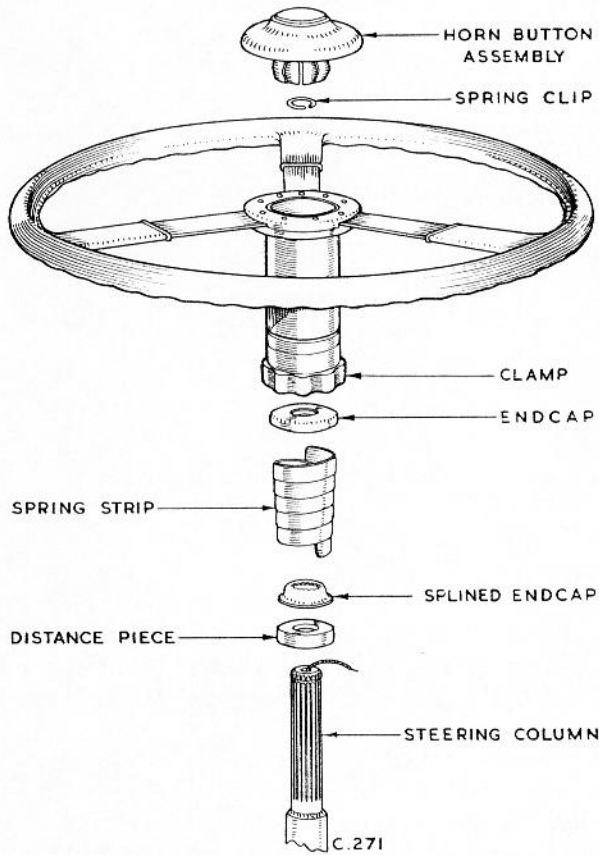

Fig. 3 Steering wheel fitments.
The steering wheel is serrated to the column and has a friction type adjustment which enables the wheel to be set at any position within its range of travel, see Fig. 3. The horn press button is mounted centrally in the wheel. The steering column mounting bracket (secured below the dashboard) incorporates a spherical housing which accommodates an insulated sleeve secured to the column; the horn cable emerges from the column immediately below the insulated sleeve to which it is secured by a clip.
2. Remove the spring clip from the top of the steering column. Slacken the adjusting nut on the steering wheel fairing, then withdraw the steering wheel as shown in Fig. 3. Withdraw the end cap, spring strip, splined end cap and distance piece from the column.